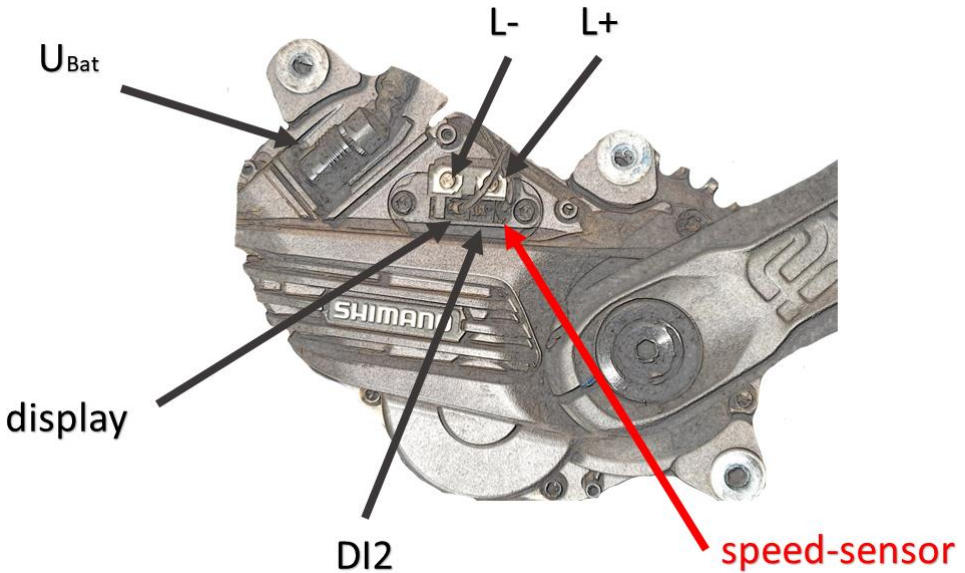

Fig. 2 Speed sensor connector end
The cable end (3) goes into the socket in the engine compartment. (see fig. 2)